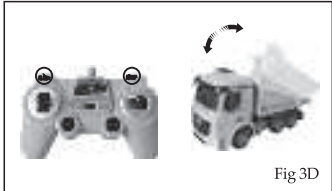

Fig 3D
- After starting the car, to press the key of Up & Down, the car would go up & down with a mechanical sound. (Fig 3D)